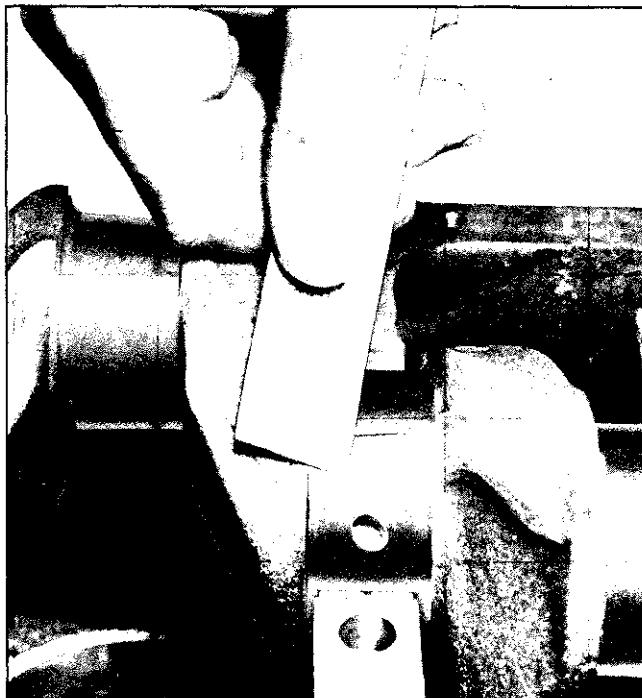

Fig. 6-49 Measuring Plastigage
4. Remove bearing cap and using Plastigage scale on envelope measure width of compressed Plastigage before removing it from the bearing or journal (Fig. 6-49). If bearing clearance is between .0003" and .002", the clearance is satisfactory. If clearance is more than .002", replace bearing with next under-
3. Remove bearing cap and using Plastigage scale on envelope measure width of compressed Plastigage before removing it from the crankpin or bearing (Fig. 6-49). If bearing clearance is between .0005" and .0028", clearance is satisfactory. If clearance is more than .0028", replace bearing with next size undersize bearing and recheck clearance. Bearings are available in .001", and .002" undersize.